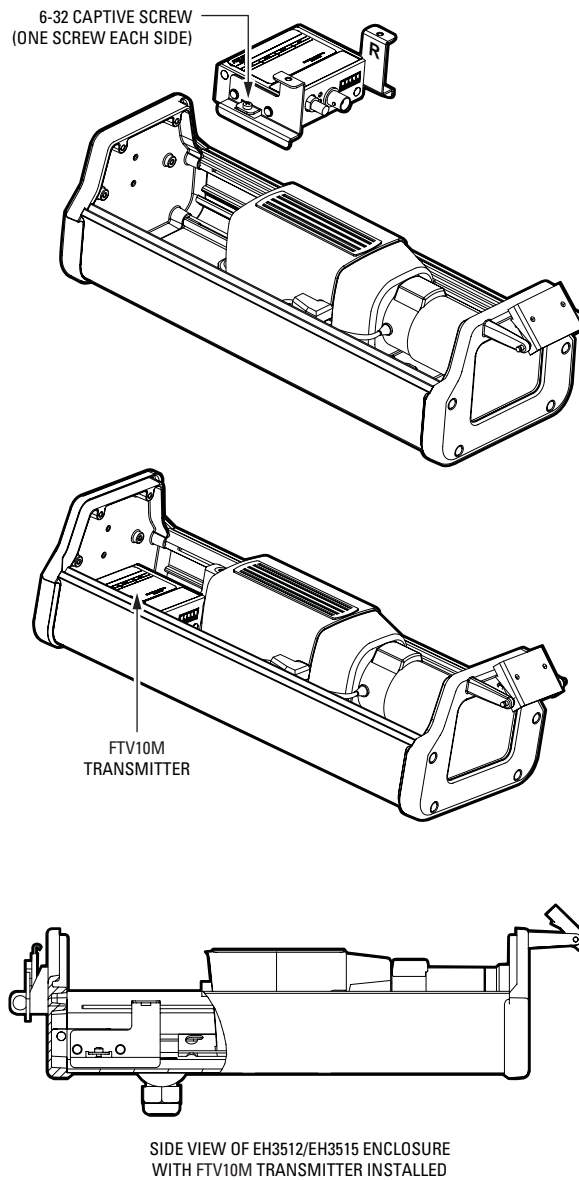

Figure 11. Mounting FTV10M Transmitter into EH3512/EH3515 Enclosure
10. Mount the transmitter into the enclosure by doing the following (refer to Figure 11):